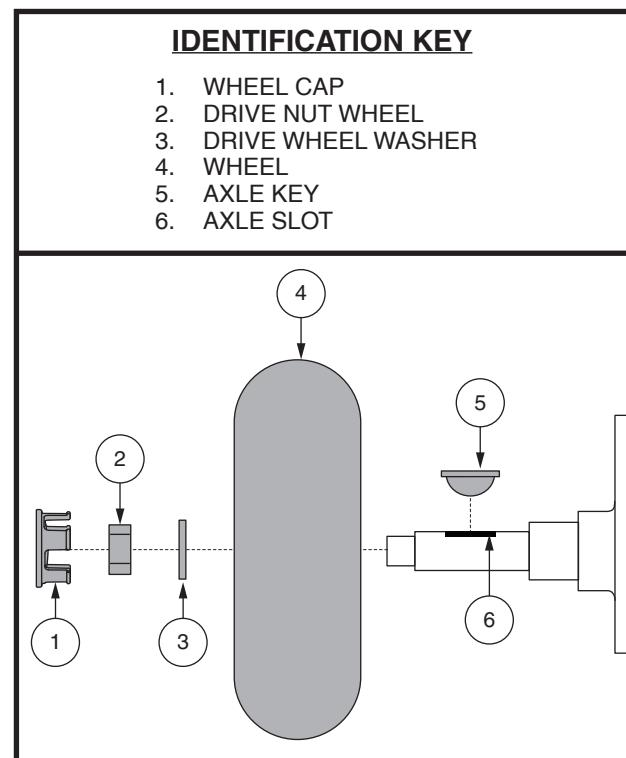

Figure 23. Wheel Removal
3. Remove the wheel cap, drive wheel nut and washer from the axle. See figure 23.
- Remove the drive wheel nut and washer from the axle. See figure 23.
- Slide the wheel back onto the axle. Make sure that the axle key is in the axle slot. See figure 23.